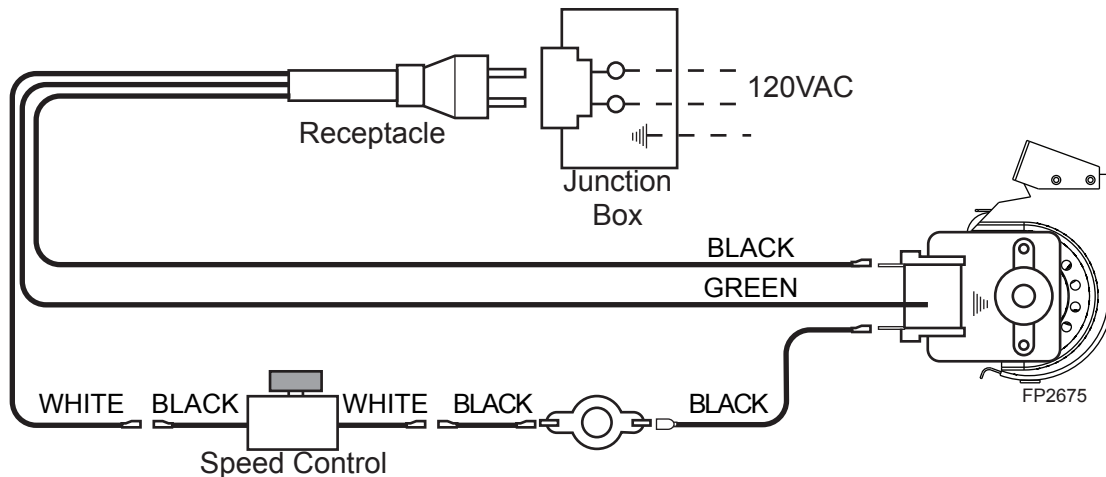

*Figure 14 -
2. Align the canopy with the holes in the top frame. *Figure 14*